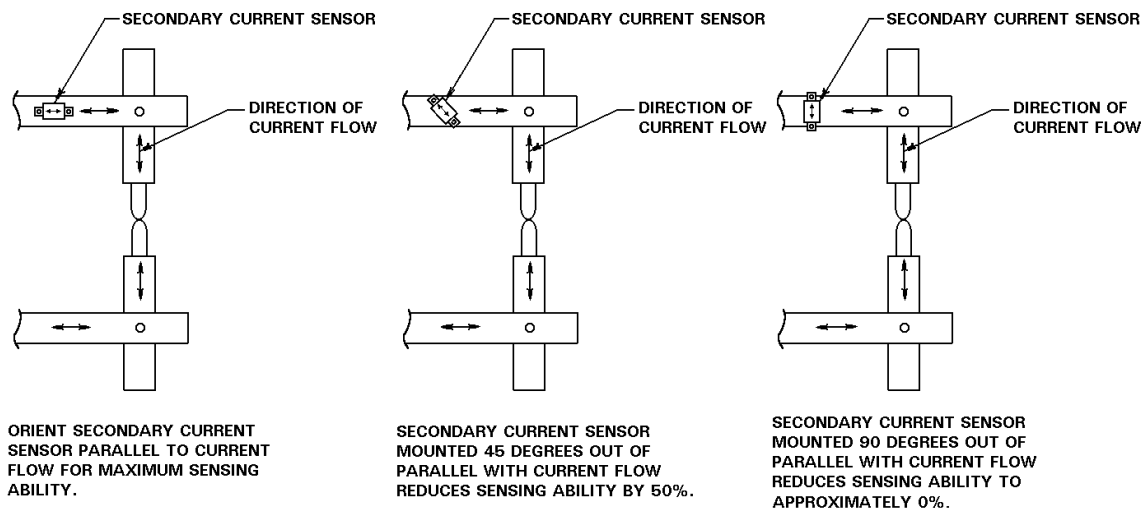

Figure 8.3.2 Secondary Hall Effect Sensor orientation
The Control is already calibrated in the Factory by using standard *calibration procedures* for the Gain Calibration on the Control Board for total of 16 ranges. However, relative position of the Hall effect Sensor must be adjusted accordingly, as shown on Figure 8.3.2.
13. Place the Current Hall Effect Sensor, as shown on Figure 8.3.2, parallel to the current flow to allow maximum sensing ability.